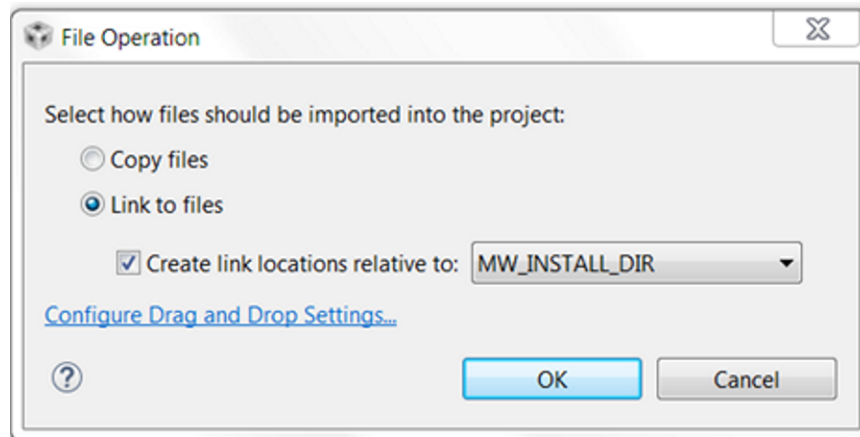

Figure 7. Dialog Window for Step 4
*C:\ti\motorware\motorware\_1\_01\_00\_18\sw\solutions\instaspin\_foc\src.* In the dialog window, add the option for adding *proj\_lab02a-BOOSTXL-3PhGaNInv.c* as per Figure 7 and click the OK button.